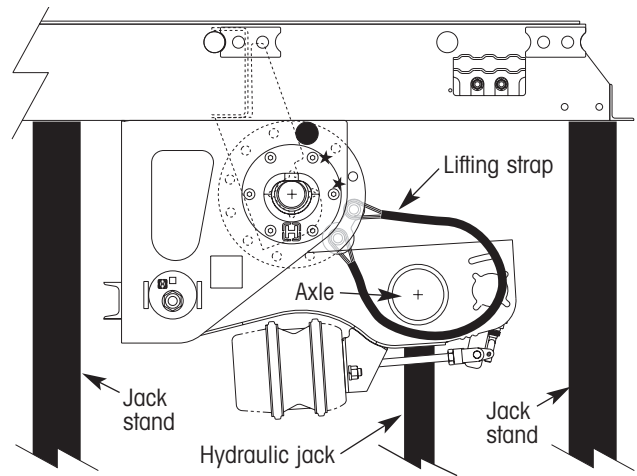

Figure 14. Reattach lifting straps in lowest pair of holes
10. Temporarily reattach the lifting straps in the lowest pair of flange plate holes that can be reached by the straps (figure 14).